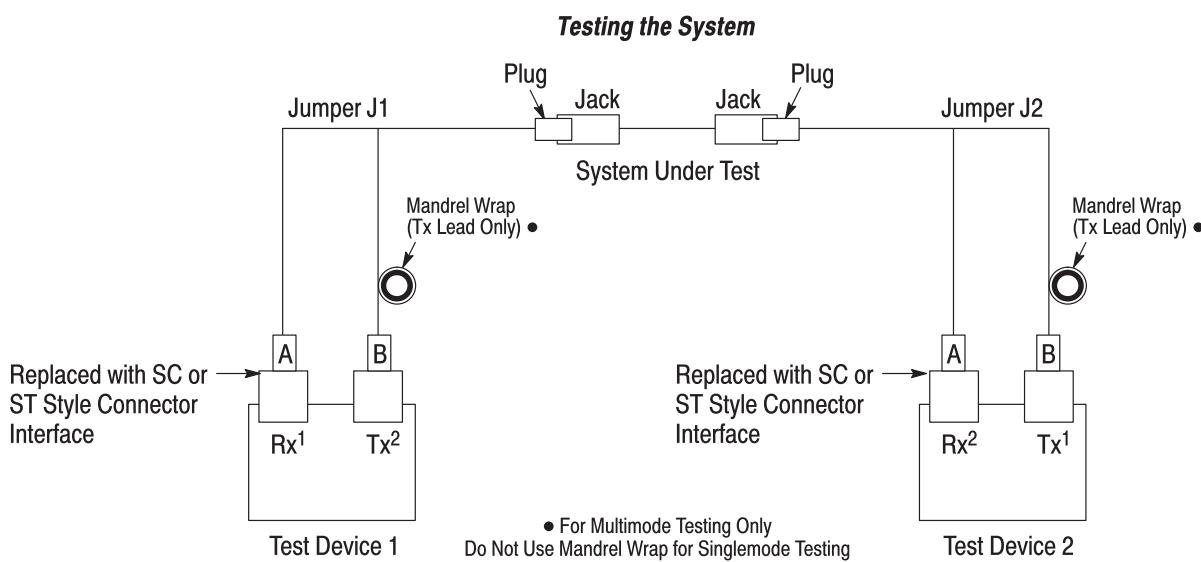

Figure 7
B. Testing the System (Figure 7)